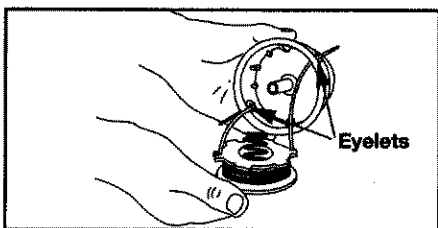

Fig. 19
1. Insert the ends of the line through the eyelets in the outer spool, and insert the inner reel and spring into the outer spool (Fig. 19).